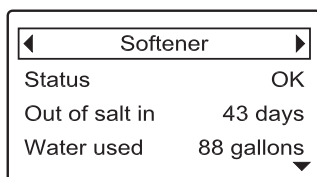

FIG. 108
1. Press the remote’s LEFT (◀) or RIGHT (▶) buttons to manually advance to the **Softener** status screen (See Figure 108).